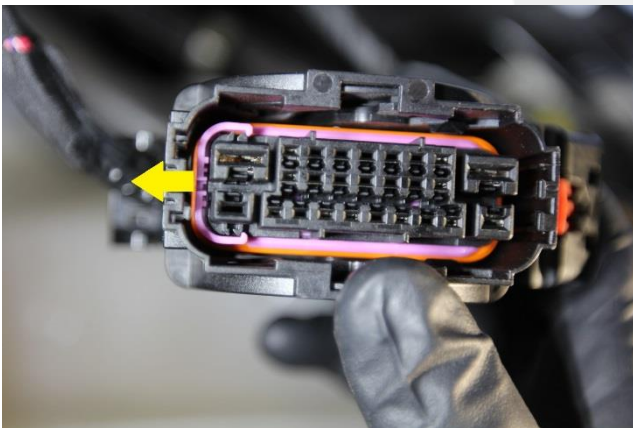

Figure 26 – Pin 9 shown, pin 1 similar
- Disengage the terminal secondary locking mechanism for the connector using a small flat head screwdriver (Figures 26 and 27).